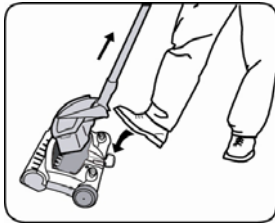

Fig. 10
1. Press the dust cup release lever with your foot. (Fig. 10)